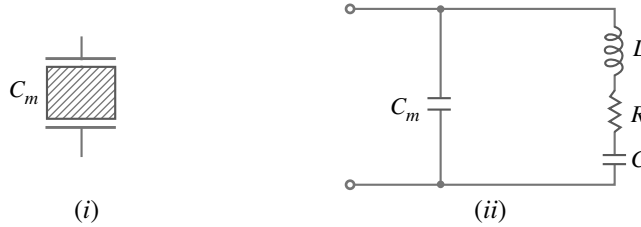

Fig. 12.27
- (i) When the crystal is not vibrating, it is equivalent to capacitance  $C_m$  because it has two metal plates separated by a dielectric [See Fig. 12.27 (i)]. This capacitance is known as *mounting capacitance*.
- (ii) When a crystal vibrates, \*it is equivalent to  $R - L - C$  series circuit. Therefore, the equivalent circuit of a vibrating crystal is  $R - L - C$  series circuit shunted by the mounting capacitance  $C_m$  as shown in Fig. 12.27 (ii).